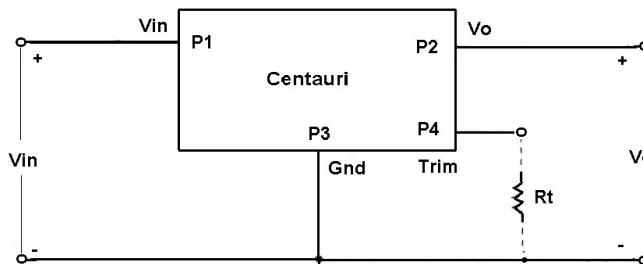

Figure 4. Output Voltage Trim Setup.
**To adjust Vo to a higher value**, please refer to Figure 4. The required resistor value (Rt) can be determined through Equation (1) where Vo is the voltage on P2 before the adjustment and Vot is the voltage of P2 after Rt is connected.